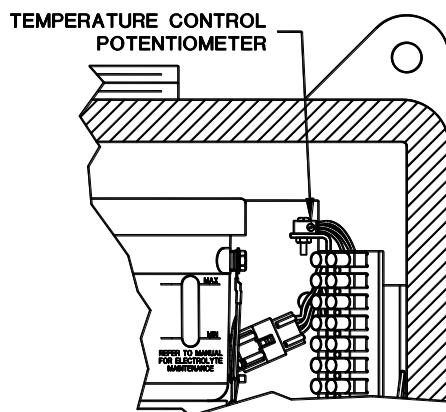

Figure 25: Temperature Control in R7 Enclosure
- 4) Locate the temperature control potentiometer on the circuit board in the enclosure above the terminal strip. See Figure 25. Turn it clockwise to increase the temperature and counter-clockwise to decrease it. After each adjustment re-cover the enclosure and allow at least an hour for it to stabilize at the new temperature.